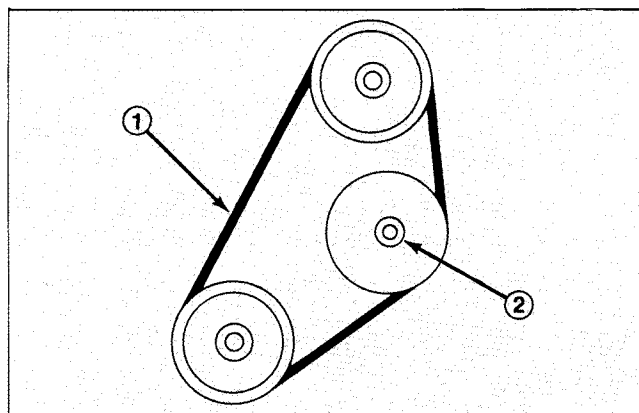

Figure 48
3. Belt should deflect 1/4 in. (6 mm) midway between the pulleys with 5 lb force (22 n) (Fig. 48). If deflection is incorrect, proceed to step 4. If correct, proceed to step 5.
4. Loosen locknut securing idler pulley (Fig. 48). Push idler pulley against belt until proper deflection is achieved and tighten idler pulley locknut (Fig. 48).
2. Loosen locknut securing idler pulley, slide pulley away from belt, and remove belt from top and bottom pulleys (Fig. 48).
3. Install new belt and adjust for proper tension. Push idler pulley against belt until belt deflects 1/4 inch (6 mm) with 5 lb force (22 N) midway between top and bottom pulley locknut to secure adjustments (Fig. 48).